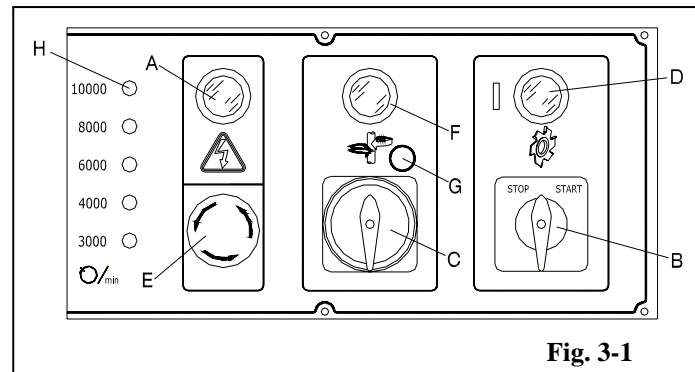
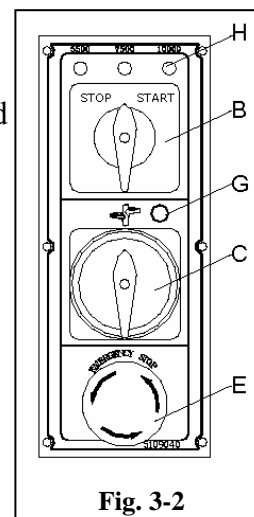

Fig. 3-1
Fig. 3-2
A control panel is provided with your spindle moulder as shown in Fig. 3.1. & Fig. 3.2.
2. Rotate the forward/reverse switch (C) Fig.3.1 to either the forward rotation, or reverse rotation.
《**CAUTION**》 The normal stop (B) Fig. 3.1, should not be replaced by this above-mentioned limit switch inside the door guard.